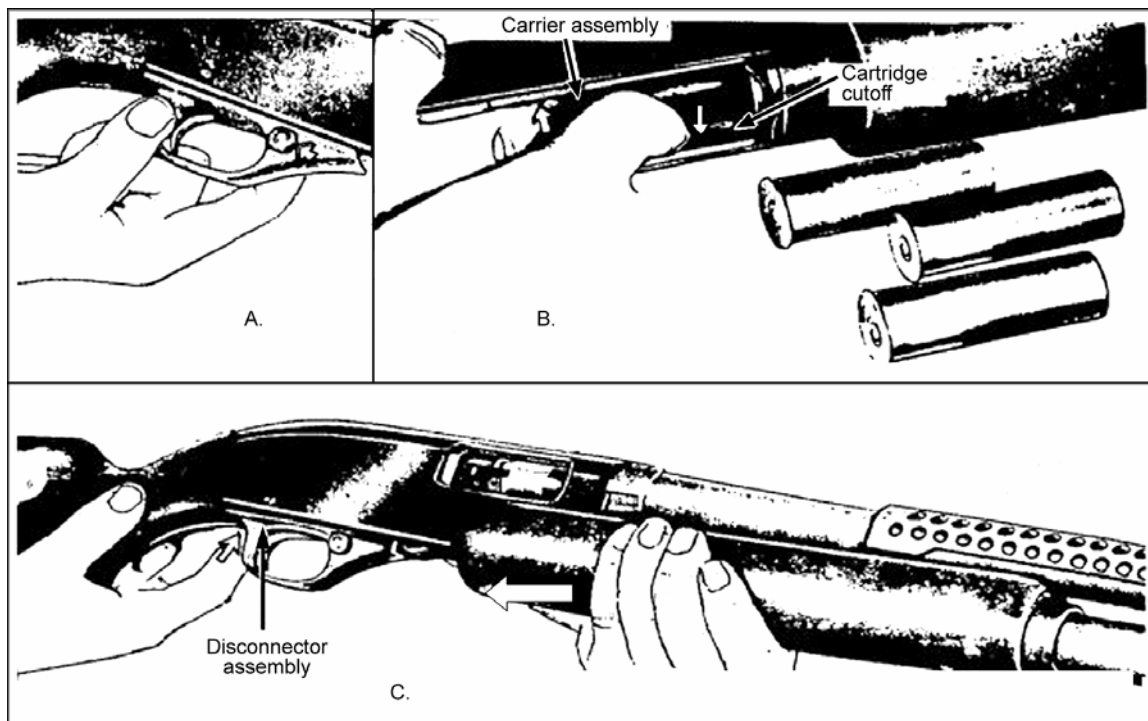

Figure 191-381-1253-2
3. Unload a 12-gauge shotgun (Figure 191-381-1253-2).